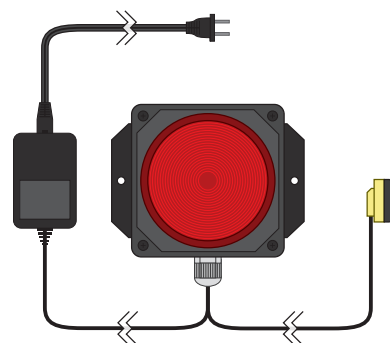

FIG. 20
To install the Dust Sentry (P) [FIG. 20] by referencing the included instruction sheet: